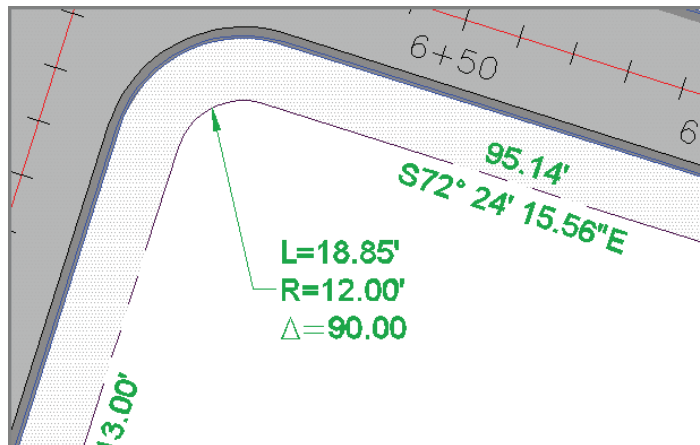

FIGURE 13.5 A curve label that has been dragged away from the curve to reveal its dragged state
9. Click the curve label at the northwest corner of lot 68. Click the square grip, and drag it to the south and east. Place it in the open space between the lot 68 area label and the northwest corner of the lot. The label is reoriented, and a leader appears that points back to the curve (see Figure 13.5).